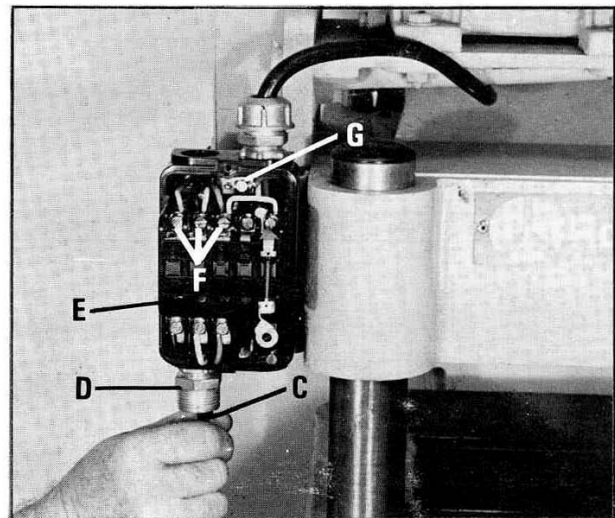

Fig. 28
2. Insert power line (C) Fig. 28, through entrance hole (D) on bottom of switch box, and up in back of starter and overload (E). Connect the three power lines to terminals (F) and the green ground wire to the ground terminal (G) Fig. 28. **IMPORTANT:** If after the machine is in operation, the cutterhead revolves in the wrong rotation, simply interchange any two of the three power lines that are connected to terminals (F) Fig. 28.